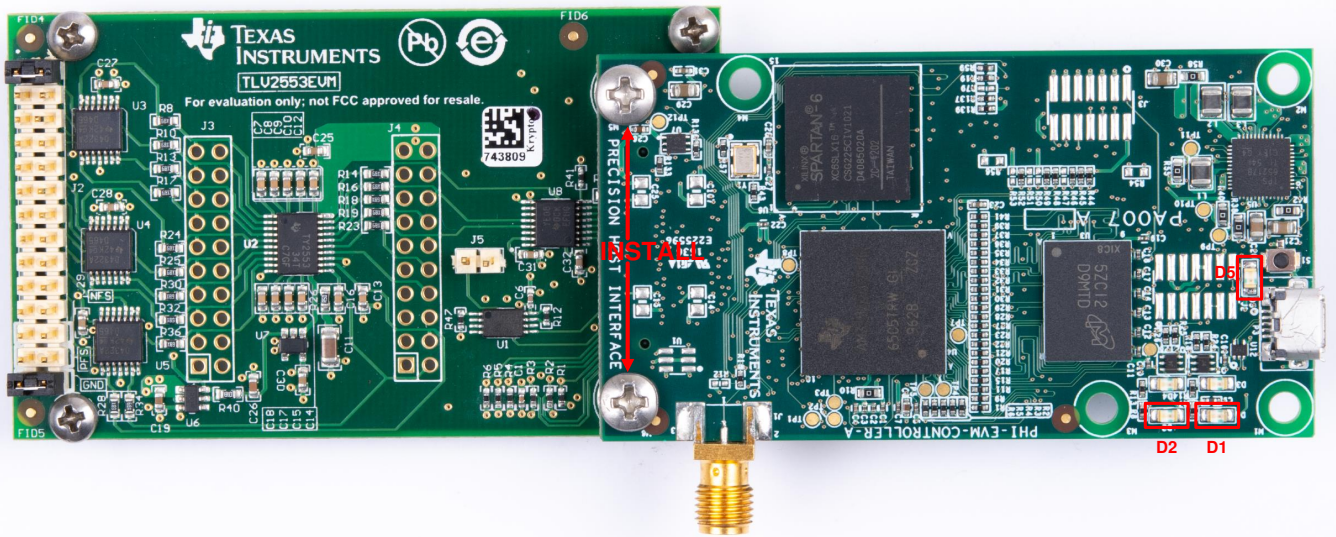

Figure 8. EVM-PDK Hardware Setup and LED Indicators
2. Connect the TLV2553EVM to the PHI, and install the two screws, as indicated in Figure 8.
- LEDs D1 and D2 of the PHI starts blinking to indicate that the PHI is communicating with the EVM. The resulting LED indicators are shown in Figure 8.